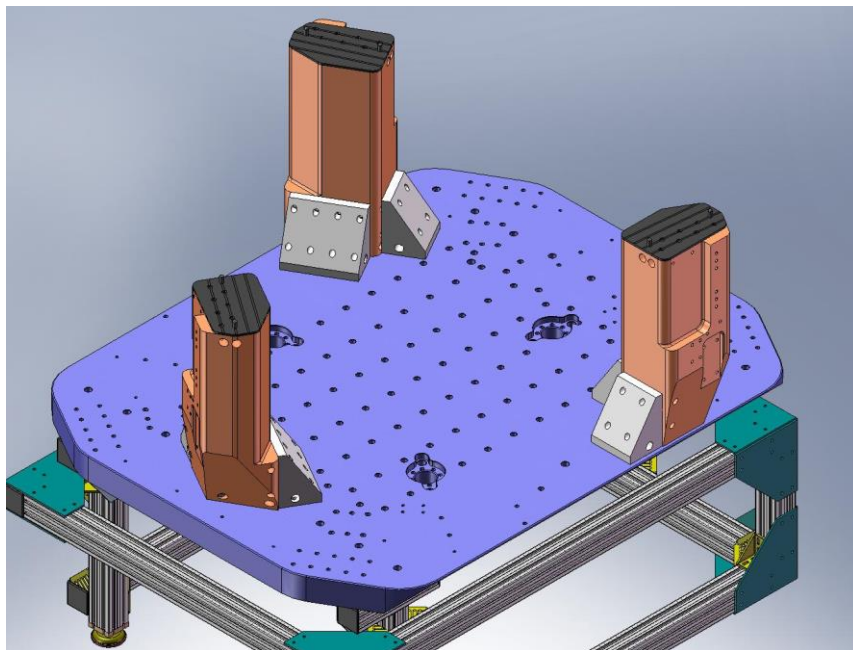

Figure 2.22. Place (3) Main and (3) Auxiliary Support Post Gussets against the sides of the Support Posts. Orient as shown in this image.
- Place (6) **Support Post Gussets** (D071004 and D071005) on **Stage 0 Base**, next to **Support Posts**. Proper orientation is shown in Figure 2.22.